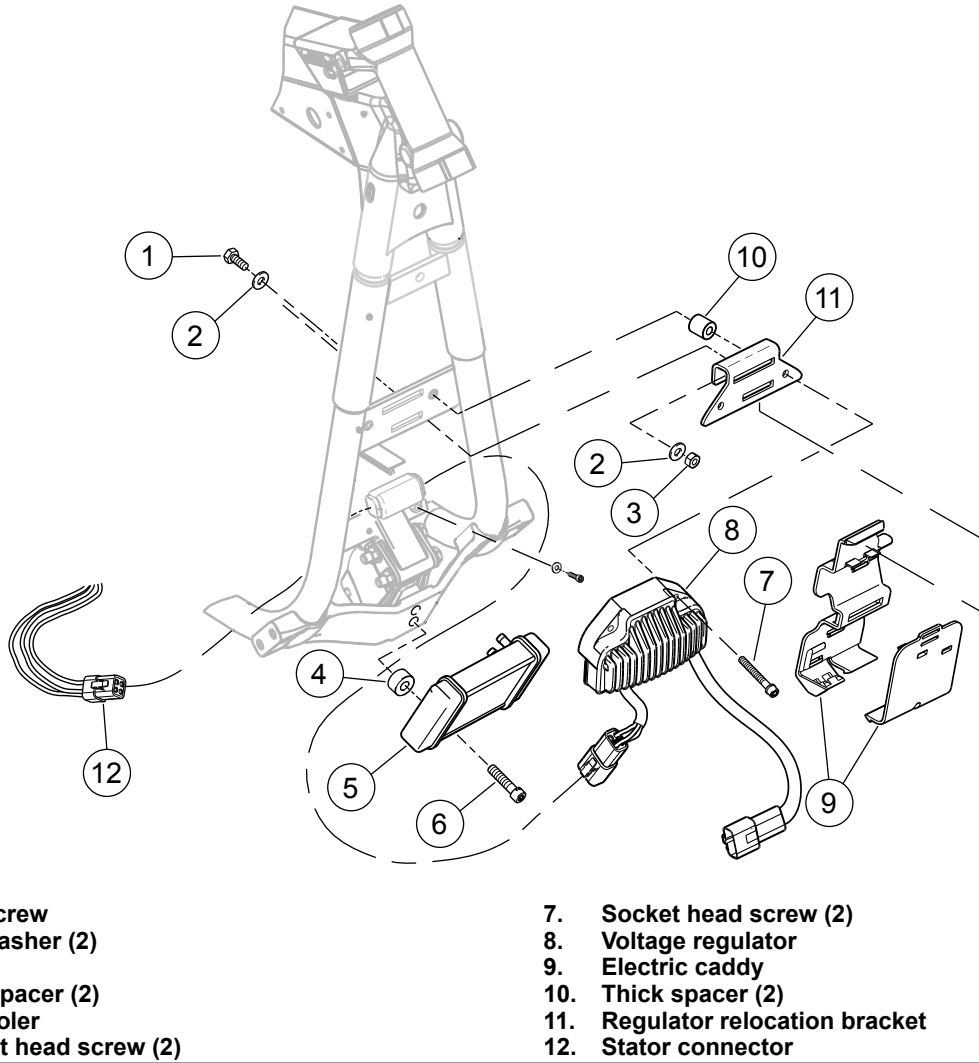

Figure 3. Regulator Relocation Bracket and electrical caddy installation
4. See Figure 3. Install electrical caddy (9) to the regulator relocation bracket (11).
5. See Figure 3. Install the regulator relocation bracket (11) to the frame using hex screw (1), two washers (2) and hex nut (3) from the kit. Tighten screw to 6.8–9 N·m (60–80 in-lbs).